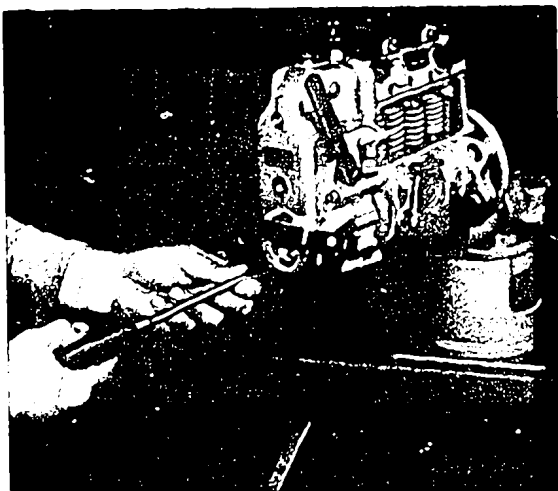

Fig. 5 Unscrewing the governor cover bolts
2.2. 2. Release bolts (150) securing governor cover (30) (Fig. 5) and remove spring washers (Ateco washers) (152). On certain pumps equipped with standard spring washers (with sharp edge) a plain washer protecting the cover is also used.